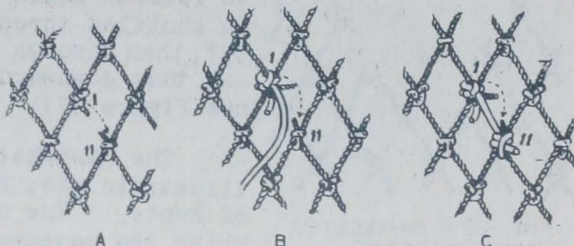

FIG. 19 - SIMPLE TEAR
In repairing damage to a net, there must be a definite starting point and a finishing point, both of which must be three-leggers. Figure 19-A shows a simple tear with only two three-leggers, which become the starter three-legger (1), and the finishing three-legger (11). Figure 19-B shows the starter knot completed and Figure 19-C shows the finishing knot with the damage repaired.